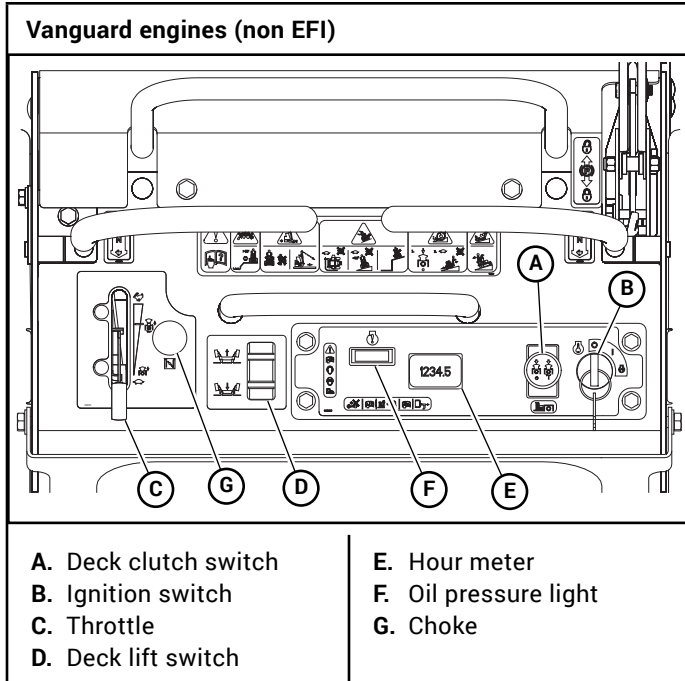
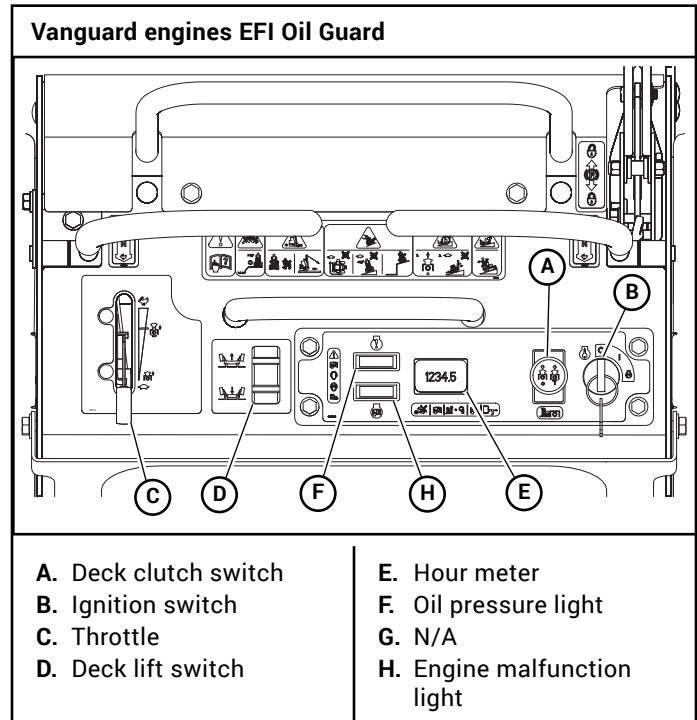

Figure 3-1
Figure 3-2
- A. **Deck clutch switch (Figure 3-1 and Figure 3-2)** – this switch engages the deck. Pull the switch up to engage and push switch down to disengage the clutch.
- B. **Ignition switch (Figure 3-1 and Figure 3-2)** – a three position switch: “OFF”, “RUN”, and “START”. With the key inserted, rotate it clockwise to the “START” position; release the key when the engine starts, and the switch will automatically return to the “RUN” position
- C. **Throttle control (Figure 3-1 and Figure 3-2)** – a cable is linked to the engine throttle for controlling engine speed. Move the lever forward to increase engine rpm, move the lever rearward to decrease engine rpm.
- D. **Deck lift switch (Figure 3-1 and Figure 3-2)** – This switch raises and lowers the center deck. Push down on the top of the switch to raise the deck. The deck will lower automatically when the switch is released.
- E. **Electronic hour meter (Figure 3-1 and Figure 3-2)** – registers 1/10 hour increments up to 9,999.9 total hours. It is connected to the ignition switch. It records the accumulative time while the ignition key is switched to the “RUN” position.
- F. **Oil pressure light (Figure 3-1 and Figure 3-2)** – this light comes on when the ignition switch is placed in the RUN position and stays lit until the engine is running and a safe oil pressure is developed. If the light comes on during operation, shut engine off immediately and locate and correct the problem.
- G. **Choke (Figure 3-1)** – a cable is linked to manually operate the engine choke. When the knob is in the down position, the choke is in the “OFF” (run) position. When the knob is pulled up, the choke is in the “ON” (start) position. **Do not** operate the machine with the choke in the “ON” (start) position.
- H. **Engine malfunction light (Figure 3-2)** – this light comes on when there has been an engine malfunction on mowers with electronic fuel injected engines. Refer to the engine owner’s manual for more details.